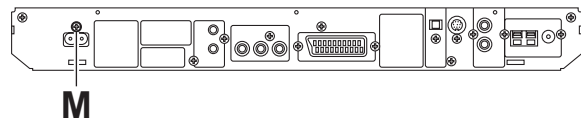

Fig.9
- (2) From the top side of the main body, disconnect the card wire from the connector CN410 on the main board. (See Fig.9)
- (3) Take out the tuner from the main body.
3.1.6 Removing the DVD mechanism assembly (See Fig.9)